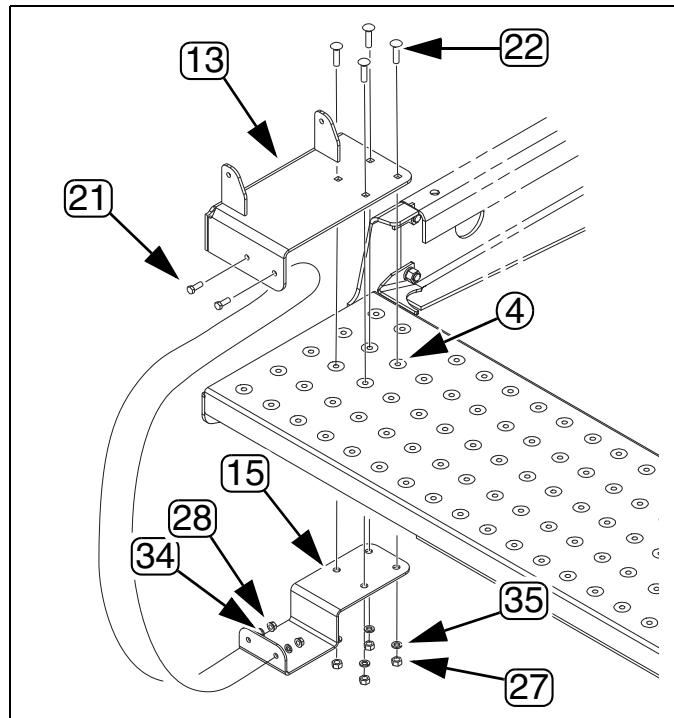
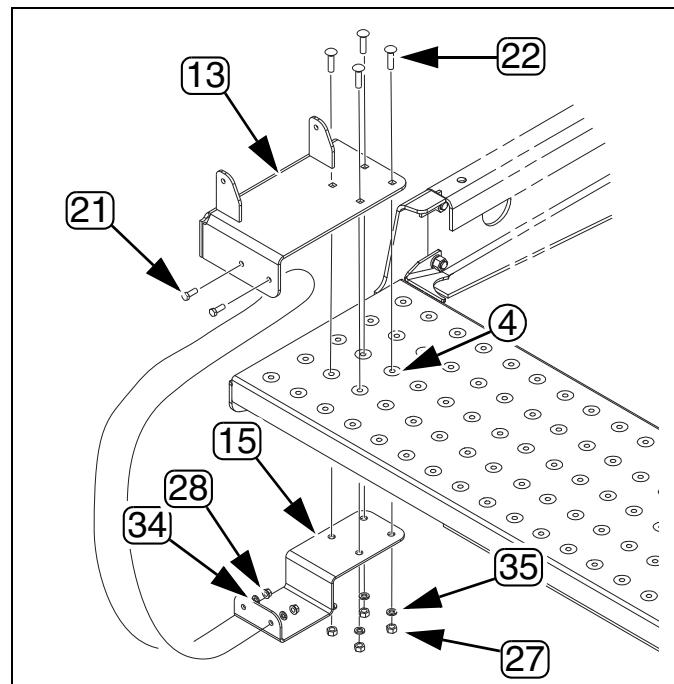

Figure 4
Figure 5
### **Refer to Figure 4 and Figure 5.**
- For drills without the small seeds option, refer to Figure 4 as a reference.
- For drills with the small seeds option, refer to Figure 5 as a reference.